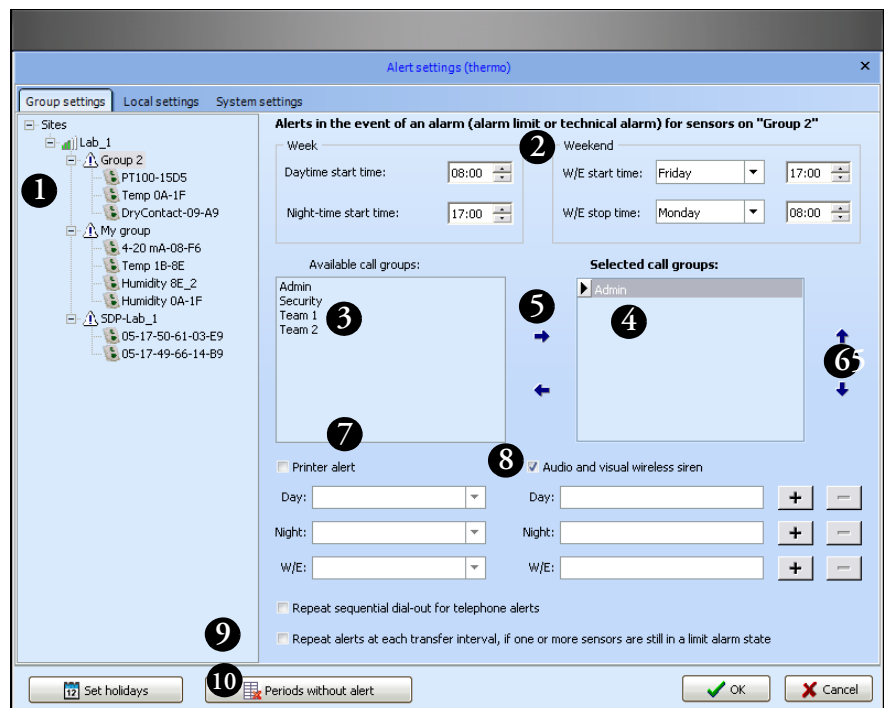

Figure 86. Alert management screen
4. In the tree structure on the left-hand panel (#1 in Figure 86) select the group you would like to configure.